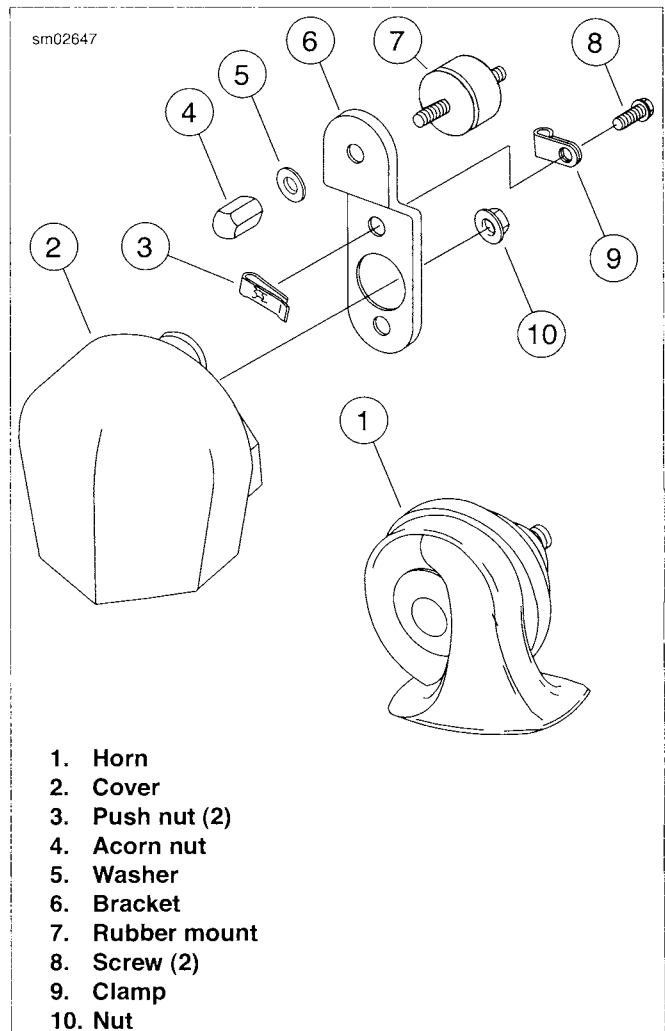

Figure 7-82. Horn
1. See Figure 7-82. Remove acorn nut (4) and washer (5) to detach horn bracket (6) from vehicle.
3. Remove screws (8) and nut (10) to detach horn from bracket. Free wires from clamp (9).
- a. Secure with screws (8), and push nuts (3). Tighten screws to **35-55 in-lbs** (4.0-6.2 Nm).
- b. Install nut (10) and tighten to **80-100 in-lbs** (9.0-11.3 Nm). Fold wires under clamp (9).
6. Attach horn bracket to vehicle using washer (5) and acorn nut (4). Tighten nut to **80-100 in-lbs** (9.0-11.3 Nm). When tightening fasteners, be sure the horn does not contact the horn cover or other parts.